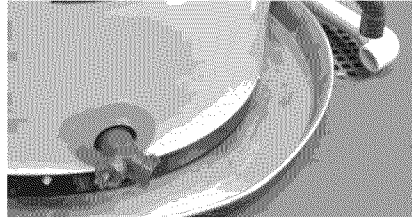

Figure 8 - A suitable drain pan piped to an adequate drain can help protect flooring from leaks and drips.
- Suitable drain pan (Figure 8 on page 10)
- Install a suitable drain pan (available at your local plumbing supply stores) under the water heater (Figure 8) to catch condensation or leaks in the piping connections or tank. Most codes require and we recommend installing the water heater in a drain pan that is piped to an adequate drain. The drain pan must be at least two inches wider than the diameter of the water heater. Install the drain pan so the water level would be limited to a maximum depth of 1-3/4".
- In a suitable drain pan piped to an adequate floor drain or external to the building (Figure 8).